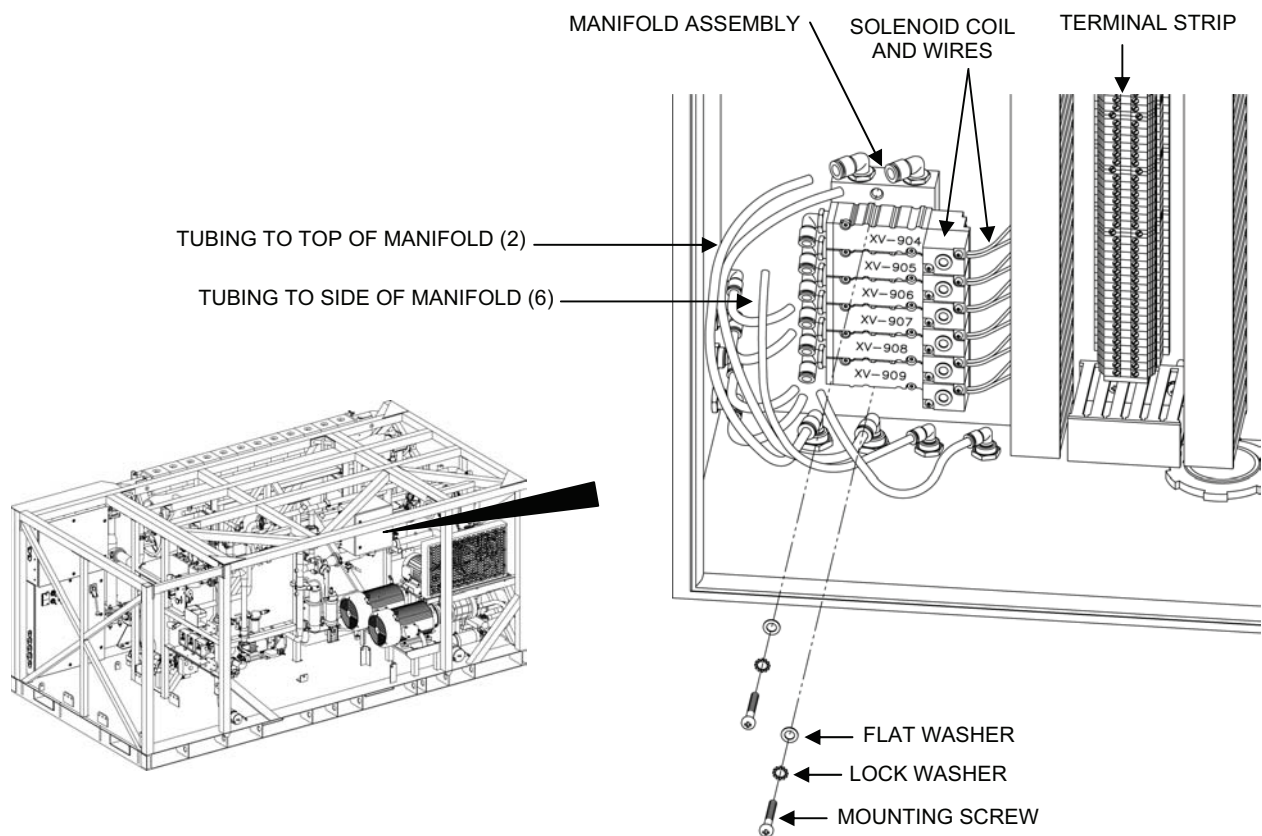

Figure 8. Solenoid Valve Manifold Assembly Removal.
2. Remove solenoid valve manifold assembly as follows (see Figure 8):